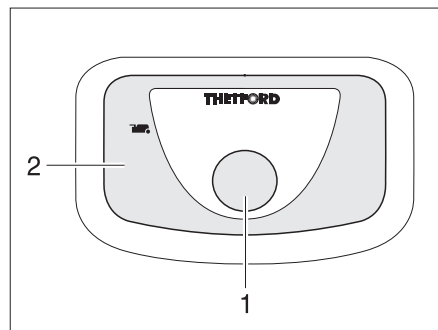

Fig. 186 Flush button/indicator lamp Thetford toilet
- ▶ For flushing, press the blue flush button (Fig. 186,1).
- ▶ After flushing close the sliding trap. To do this push the slide lever in a clockwise direction. The indicator lamp (Fig. 186,2) goes on whenever the Thetford cassette has to be emptied.